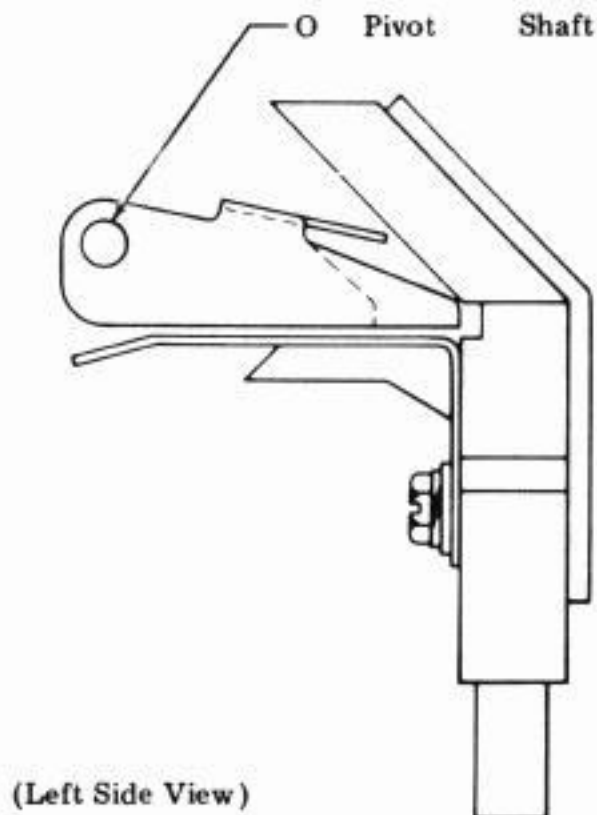

Figure 7 - Tape Guide Lubrication
- 2.23 Refer to Figure 7 for lubrication of the tape guide for folded tape.